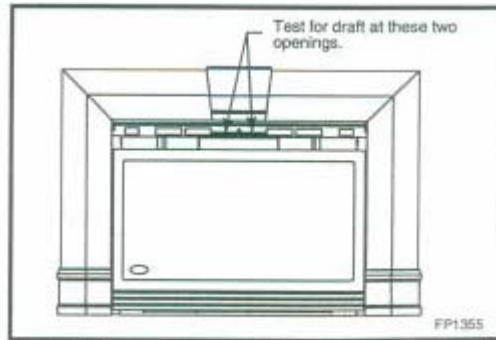

Fig. 12 Hold an ignited match in front of fireplace.
This insert is equipped with a draught-relief opening which receives its dilution air supply through the opening at the back of the insert. These openings must not be obstructed or entered in any way. (Ref Fig.12)
4. Hold an ignited match or candle in front of the unit. Refer to drawing number Fig.12 for the location of the draught hood opening.